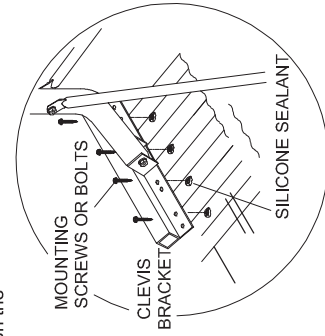

figure 6
STEP 3: On the exterior of the roof near the cable grommet, drill four screw holes or remove the existing screws from four suitable holes in the roof cladding to suit the Clevis and assemble as per figures 6 & 11. Take particular care to liberally apply sealant to the screw holes under the Clevis bracket. If cyclone washers are used under the roof screws, do not replace them under the Clevis bracket. Fixing screws are not provided, recommended screws = Buildex Type 14-10 x 75mm.